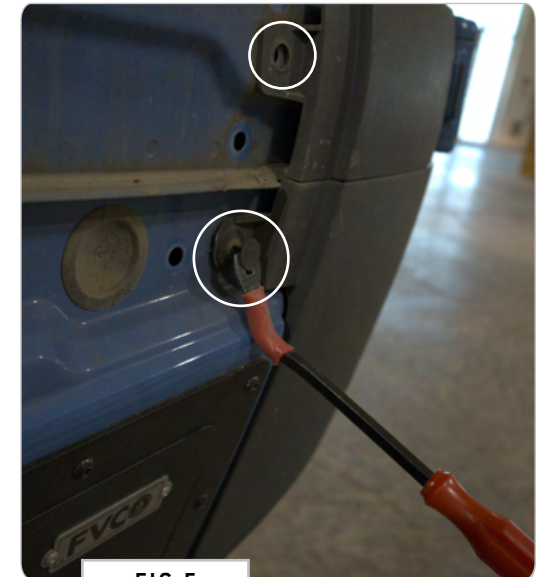

FIG 5
2.2 Remove Upper Rear Bumper Trim: Pop out the plastic rivets that secure **Upper Rear Bumper Trim** (under the tail light) to the body (FIG 5). Set the trim piece and plastic rivets aside.